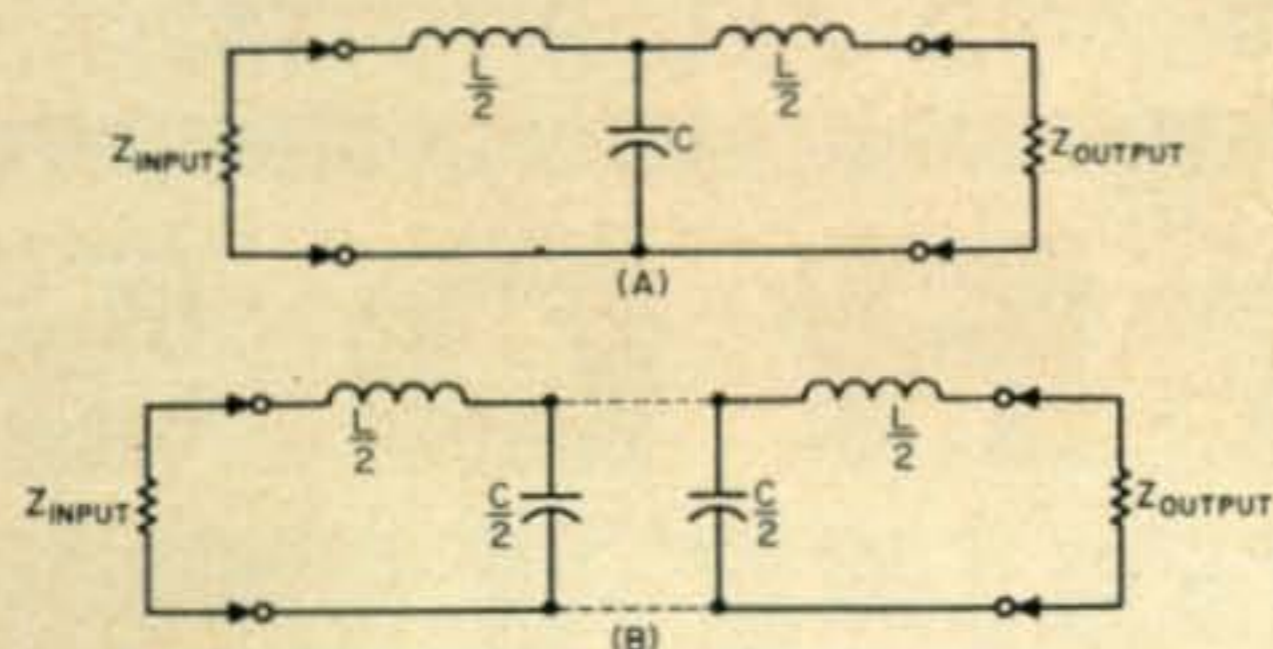

Fig. 1 (A) Common T filter. (B) The common T filter split in two sections.
except the filter has been split into two half sections. As can be seen, by joining the dotted line and replacing the capacitors by a single capacitance, we have fig. 1(A) again.